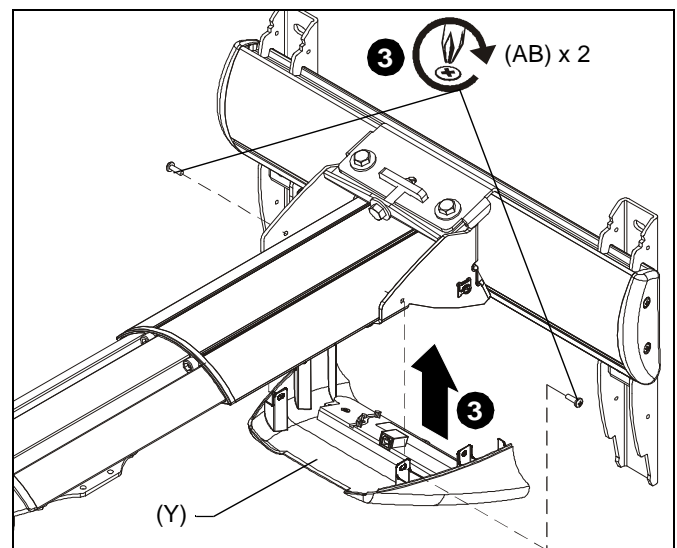

Figure 23
2. Connect USB cable (AH) to cartridge through bottom of lower cover.
3. Raise the lower cover containing cartridge and attach to wall mount using two 8-32 x 3/8" Phillips pan head screws (AB). (See Figure 23)